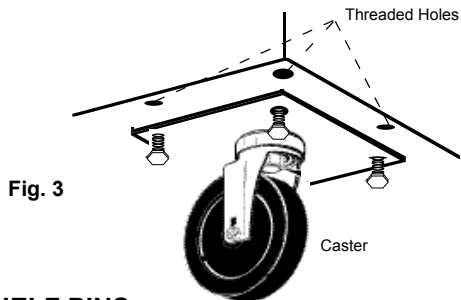

Fig. 3
Please note that Traulsen units are not designed to be moved while on legs. If the unit requires moving, a pallet jack or forklift should be used to prevent damage. For installing casters, the casters are "plate" type, and require the use of four (4) bolts each to secure them firmly to the cabinet bottom at each corner (see figure 3). The caster bolts are tightened using a 1/2" socket wrench.